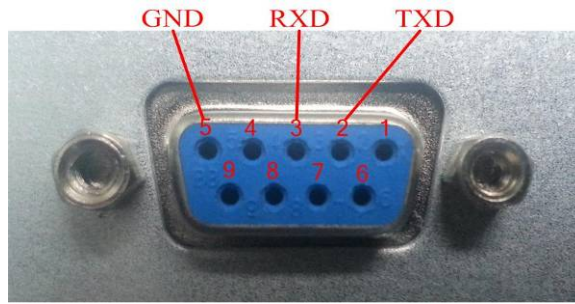

Fig 1-4. Female type holes definition of RS\_232 Port
2) Female type holes definition of RS\_232 Port is shown in Fig 1-4.